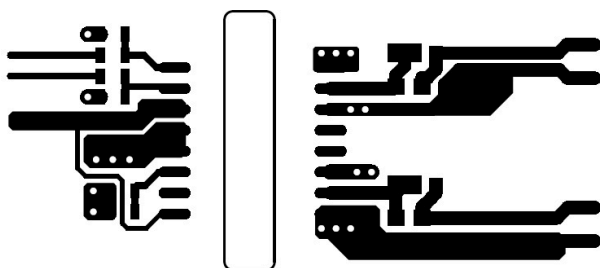

Figure 8-7. Top Layer Traces and Copper
- Increasing the PCB copper connecting to VDDA, VDDB, VSSA and VSSB pins is recommended, with priority on maximizing the connection to VSSA and VSSB (see Figure 8-7 and Figure 8-8). However, high voltage PCB considerations mentioned above must be maintained.
Figure 8-7 and Figure 8-8 shows top and bottom layer traces and copper.